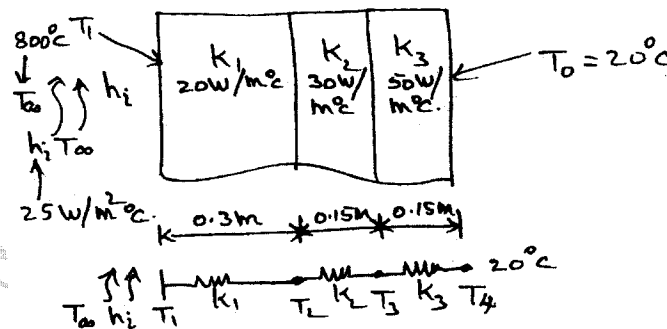

Fig.Q8
- 8 A composite wall shown in Fig.Q8 consists of three materials. The outer temperature T_0 is 20°C . Convective heat transfer takes place on the inner surface of the wall with $T_\infty = 800^\circ\text{C}$. The convective heat transfer coefficient h_i is $25 \text{ W/m}^2\text{C}$. Determine the temperature distribution in the wall.